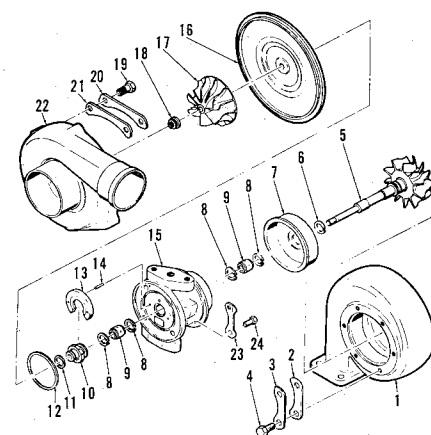

Fig. 117—Exploded view of AiResearch turbocharger.
140. **OVERHAUL (AiResearch).** Remove turbocharger as outlined in paragraph 137. Clean housing and mark for proper alignment during reassembly. Bend lockplate tabs (3 and 20—Fig. 117), remove bolts (4 and 19), clamps (2 and 21) and carefully separate housing assemblies. Remove locknut (18) while supporting center housing in a vertical position. Avoid bending turbine wheel shaft (5) while removing compressor wheel (17) from turbine wheel assembly. Turn over housing and withdraw turbine wheel assembly with piston ring (6). Bend locktabs on lockplate (23) and remove remaining bolts, lockplate (23) and backplate assembly (16). Do not disassemble backplate assembly. Center housing pins (14) should not be removed unless renewal is required.
The following parts should be renewed whenever turbocharger is overhauled or disassembled: Bolts (4, 19 and 24—Fig. 117), lockplates (3, 20 and 23), sealing ring (12), piston rings (6 and 11), snap rings (8), and bearings (9).
Refer to Fig. 117 to assemble turbocharger. Reassembly procedure is the reverse of disassembly, however the following steps should be taken: Fill piston ring groove with high vacuum silicon grease manufactured by Dow-Corning or equivalent. Install piston ring (6) and shroud (7) on turbine wheel assembly (5), then guide wheel assembly shaft through bearings (9). Slide shaft into center housing (15) as far as it will go. Place serrated end of turbine wheel assembly in a suitable socket or box end wrench clamped in a vise. Install thrust collar (10) on turbine wheel assembly (5) and slide the assembled parts down against center housing (15) so pins (14) engage thrust bearing holes. Install backplate (16) over turbine wheel shaft (5) and guide piston ring (11) into backplate bore. Install screws (24) and lockplate (23) then tighten screws to a torque of 75-90 in.-lbs. Install compressor wheel (17) on turbine wheel shaft.